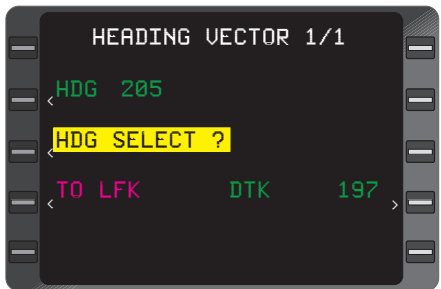

Figure 3-97
3. **ENT** Key - DEPRESS. The cursor advances to Heading Mode field. (Figure 3-97)